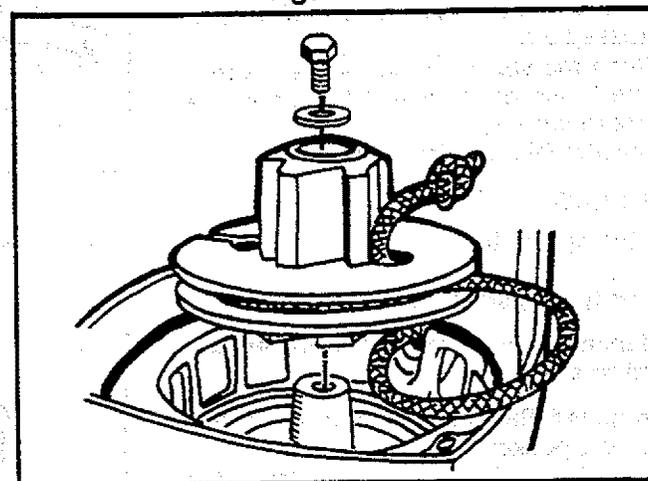

Figure 49
8. Remove the pulley screw in the center of the pulley. Figure 49.
13. Feed the rope through the housing and through the round starter hole. Figure 49.